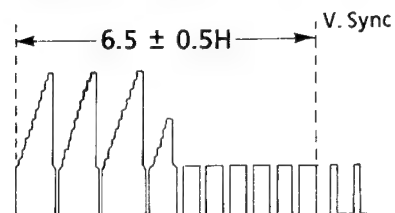

Figure 2-2
- (1) Connect a dual trace oscilloscope to test point TP502 located on the Y/C PWB and the VIDEO OUT jack. (Triggered on TP502)
- (2) Play the alignment tape.
- (3) Press both tracking control buttons at the same time to set the tracking in center.
- (4) Adjust R701 so that the edge of the head switching pulse is $6.5H$ (lines) ahead of the vertical sync as shown in Figure 2-2.